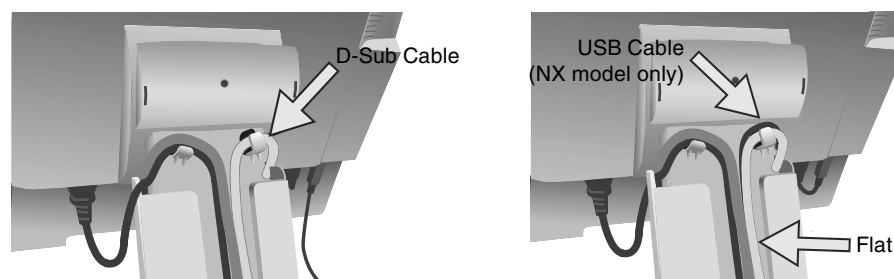

Figure C.3 (Picture: LCD2070NX model)
8. Make sure all cables are resting flat against the stand (Figure C.3).